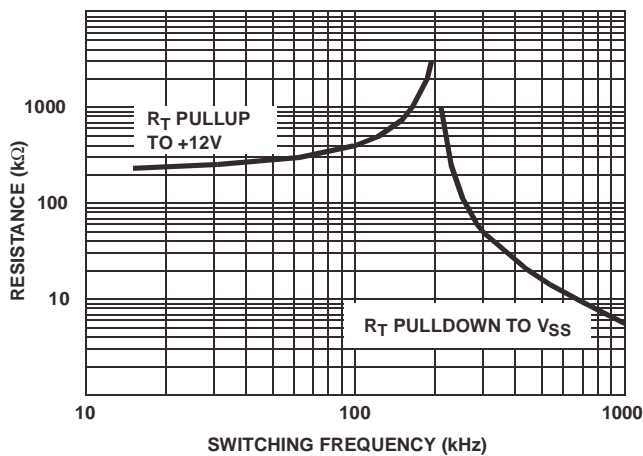

FIGURE 1. RT RESISTANCE vs FREQUENCY
## Electrical Specifications Recommended Operating Conditions, Unless Otherwise Noted. Refer to Figures 1, 2 and 3
**Electrical Specifications** Recommended Operating Conditions, Unless Otherwise Noted. Refer to Figures 1, 2 and 3 (Continued)